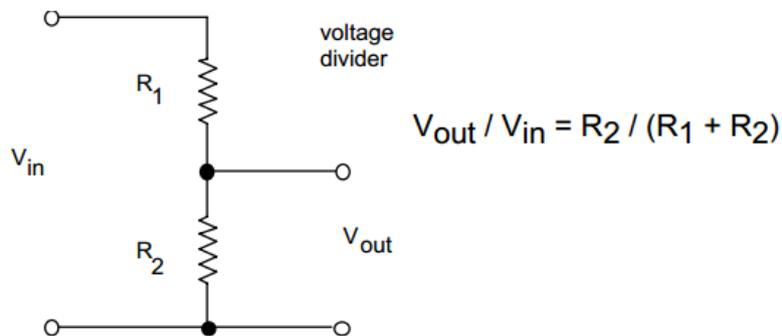

Figure 3
- Study a voltage divider: A voltage divider is two resistors connected in series (Figure 3).
- Measure the values of the resistors shown in Figure 3, then wire up the circuit. Use the breadboard. Use a 5-Volt power supply to supply  $V_{in}$ .